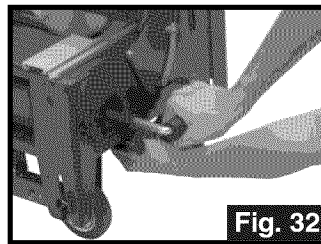
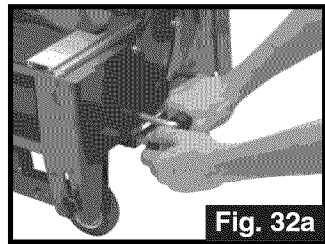

Fig. 32
Fig. 32a
4. Your tile wet saw has been equipped with a set of wheels for easy transporting. They are to be used when the legs of the saw table are in the closed, or folded up position. To use wheels, simply pull out and down on the black handle located on the wheels' axle (Fig. 32). When not using the wheels, and to set up the saw in a new location, retract the wheels by pulling out the knob located on the table base directly above the wheels (Fig. 32a).